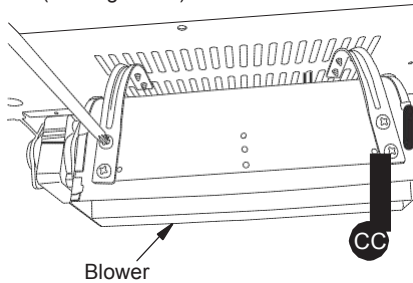

Figure 19 - Attaching Blower to Blower Access Panel
2. Attach blower to the inside of the blower access panel with 4) M4.2X8 screws (CC) (see Figure 19).